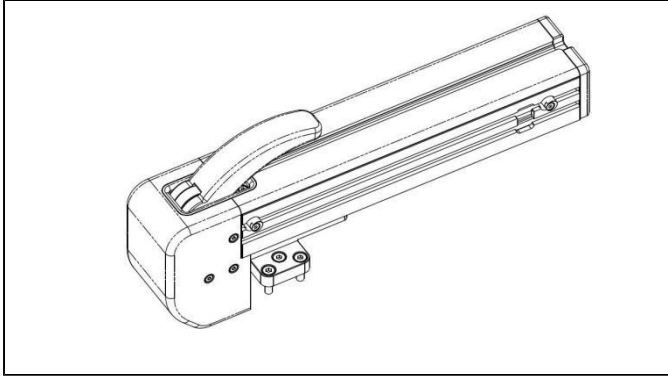

Fig. 14-3
2. Remove the fence main body assembly according to the procedure described in section 10.8 (1), as shown in Fig. 14-3.